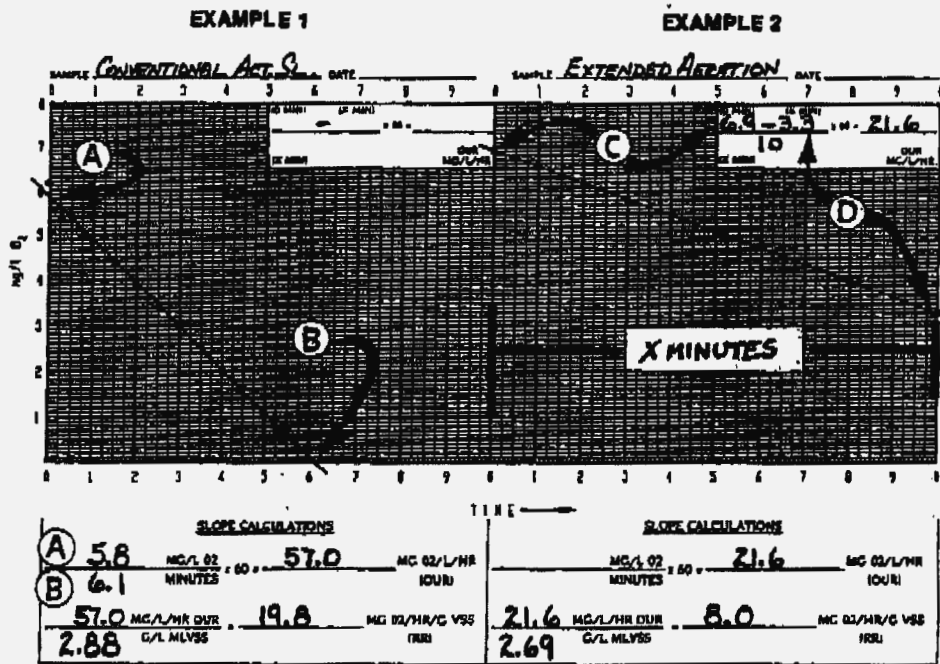

Figure 2.3 Graph of OUR test.
9. Draw a straight line connecting the majority of the points. Extend the line so that it crosses the horizontal and vertical axes. Note: The operator may discover that the line is not straight at the beginning and end of the test (Figure 2.3, from *Operating Activated Sludge Using Oxygen Uptake* [1989]. Problem-Related Operations-Based Education, Water Pollution Control Federation, Alexandria, Va.). The straight line is drawn to negate the effects of these curves. At the
The first method as stated in the procedure above requires drawing a straight line through the greatest number of points graphed. The line will cross both the horizontal (time) and vertical (milligrams per litre) axes of the graph. The values at these two points are used in the OUR calculation (refer to Figure 2.3). The milligrams per litre of
The second method (refer to Figure 2.3) is applicable when using the second, or right hand, side of the graph to do an OUR on an aerobic digester or extended aeration system. These usually flat lines may not conveniently cross the horizontal axis. The straight line through the majority of points should still be drawn. Pick a point on the line as time zero (*C*) and enter the milligrams per litre of oxygen value in the calculation box on the upper part of the graph. Pick a second point (*D*) on the line as the end time and enter it. The points should be at least 5 minutes apart. Divide by the time span between the two points, and multiply by 60 minutes per hour to derive the milligrams per litre per hour OUR.